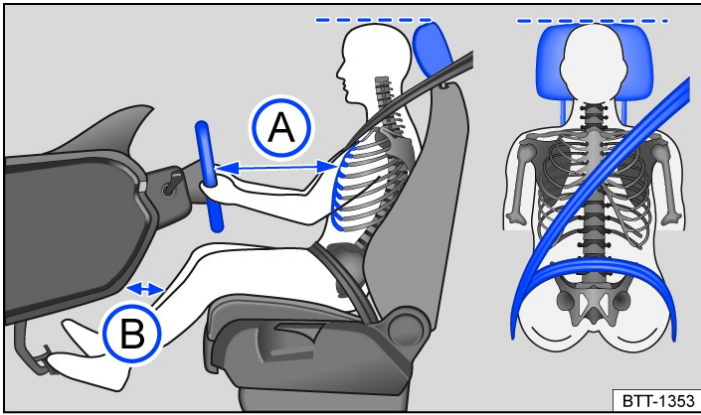

Fig. 1 Schematic diagram: Correct distance between the driver and the steering wheel, correct seat belt routing and correct head restraint adjustment.
- Adjust the head restraint so that its upper edge is at the same height as the top of the head, but not lower than eye level. Position the back of your head as close to the head restraint as possible at all times → Fig. 1.